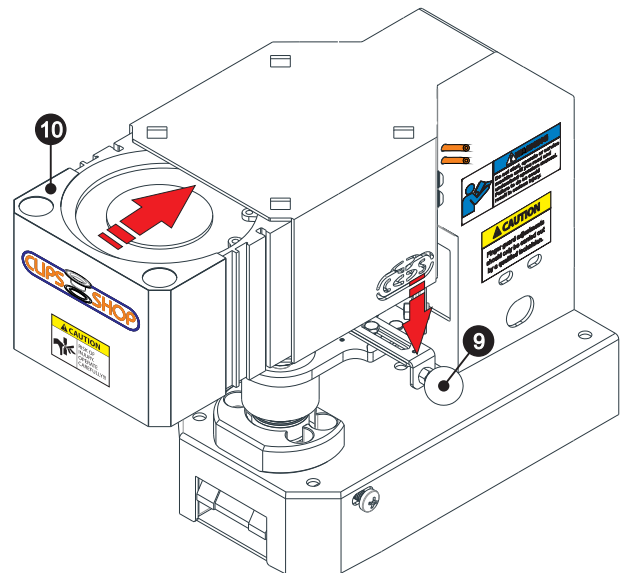

fig. 90
While pulling the manual starting arm⑨ down, insert the pneumatic cylinder⑩ into the machine body in the arrow directions as shown in the (fig. 90).